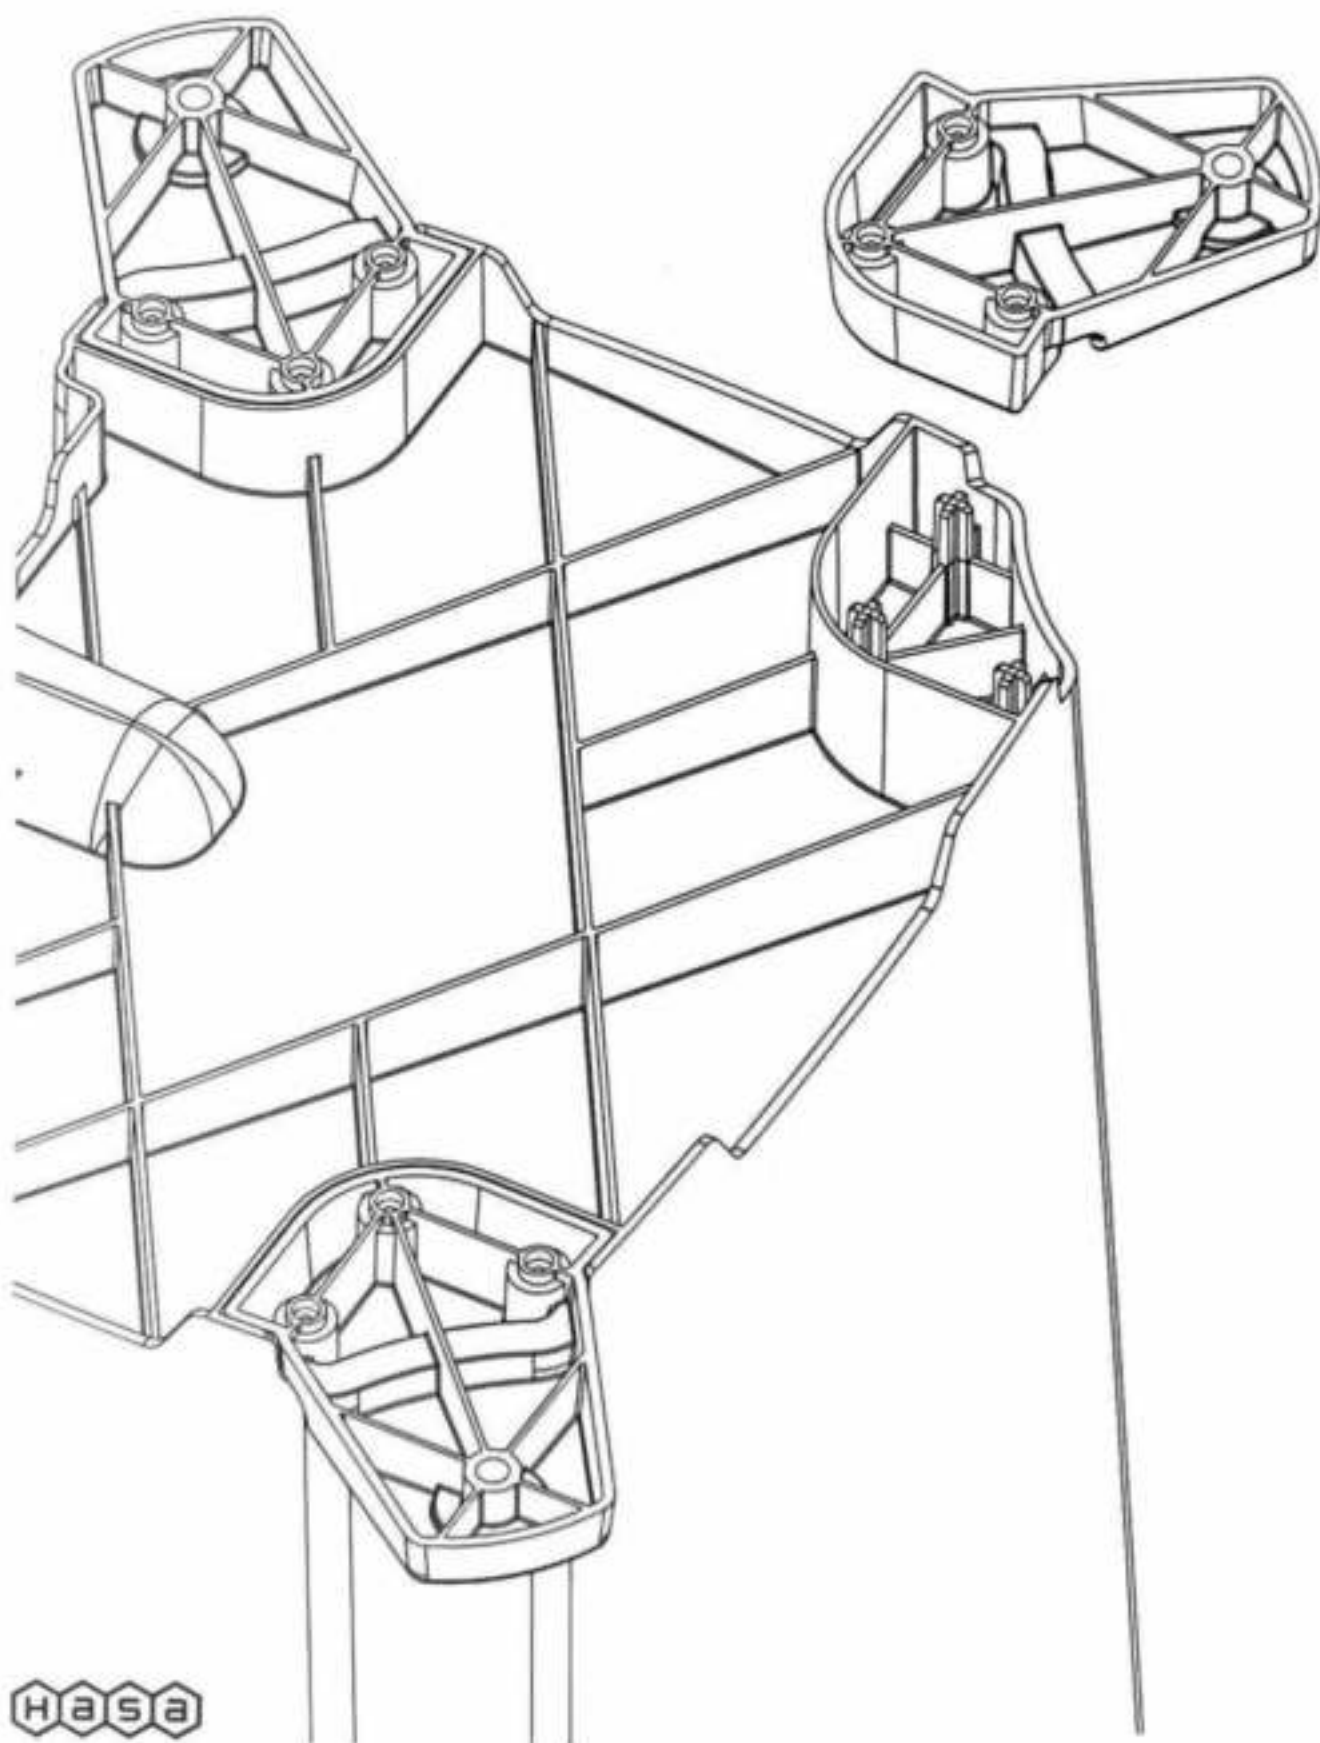

FIGURE 3: HLF™ FEEDER RESERVOIR AND COVER
- A. Feeder Reservoir with pre-plumbed fittings (Figure 3)
- B. Feeder Cover (Figure 3)
**Step Six:** Stretch the tubing (See Photo #3) to the front of the feeder reservoir (Figure 3, Photo #3). The supply "IN" line will be on the right when facing the front of the feeder. Cut tubing to appropriate length to push the supply line tubing into the quick connect check valve—allowing water flow into the feeder tank. Allow enough slack in tubing to naturally hang.
**Step Seven:** With the remaining tubing, push one end of the tubing into the return "OUT" check valve (left side when facing feeder, Figure 3). Stretch tubing to installed supply adapter on pump. Measure and cut away excess tubing. Unscrew compression nut and repeat adapter tubing installation as shown in Step 5.
**Step Ten:** Turn on breaker to pool equipment. Turn on pool pump. Once the pump has re-primed, check all fittings and tubing for visible leaks. Watch as water level in tank will be rising. Place feeder cover (Figure 3) on the feeder reservoir. Add initial liquid chlorine (sodium hypochlorite) through the open fill lid on top (Figure 3). Pour SLOWLY towards top edge of funnel to allow a gentle swirl and prevent splash-back. Start with 2 gallons (minimum) to 8 gallons (maximum) of liquid pool chlorine (amount is dependent on bather load and water temperature).
After adding the liquid pool chlorine to the HLF™, close the fill lid on top (Figure 3). Make sure lid is always closed to prevent dirt and debris from entering the unit. Adding liquid pool chlorine in excess of the recommended maximum will only decrease the operating efficiency of the unit and possibly result in scaling of the valves and tubing.